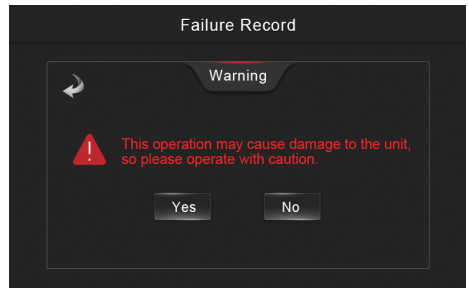

Fig.15-2 Recovery the failure three times to lock interface
4) In the Failure Record interface (Fig.14), press  to enter recovery the failure three times to lock interface (Fig.15-2).